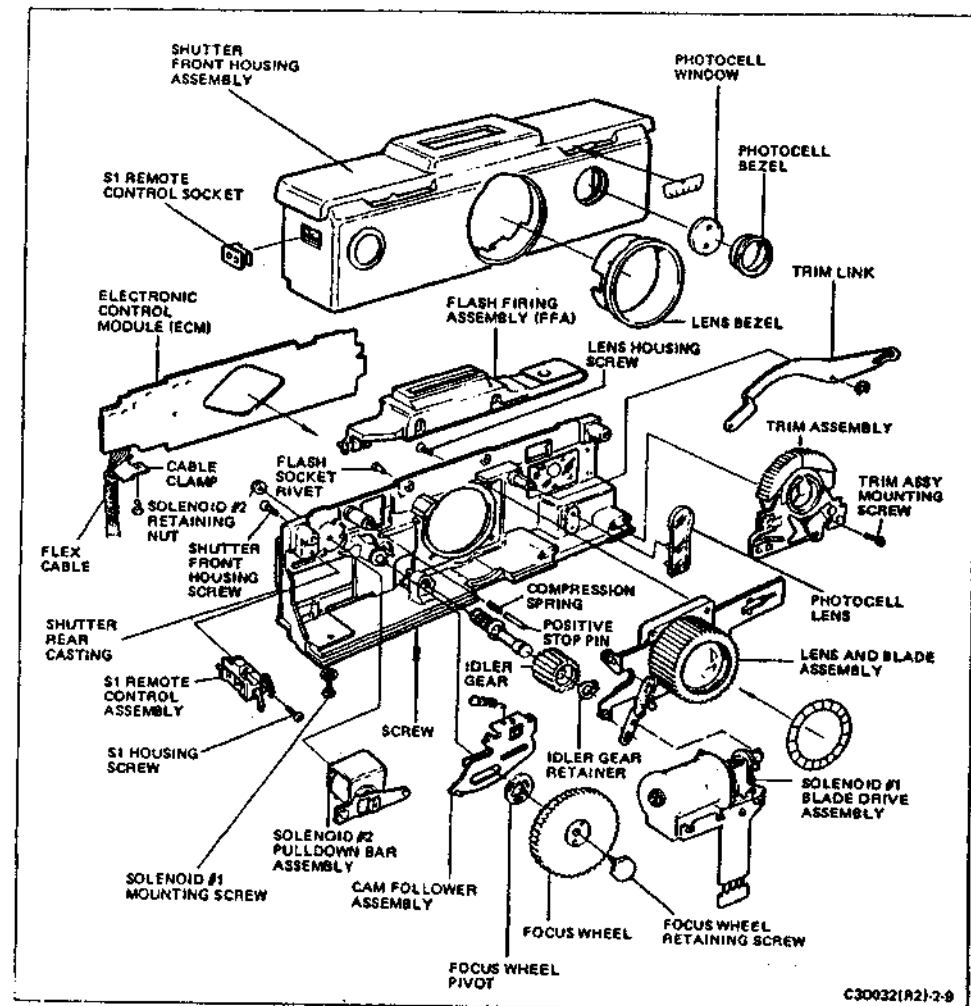

FIGURE 2-9 SHUTTER, EXPLODED VIEW
F. SHUTTER MECHANICAL DETAILS (Figure 2-9)